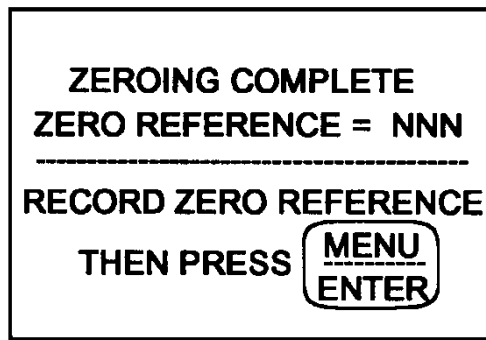

Figure 11
- 13.4.2.6 Verify that the display message changes to ZEROING COMPLETE ZERO REFERENCE = NNN / RECORD ZERO REFERENCE THEN PRESS MENU/ENTER" per Figure 11. Verify that NNN = 497 to 503. Record NNN, then press the MENU/ENTER key. Record values.